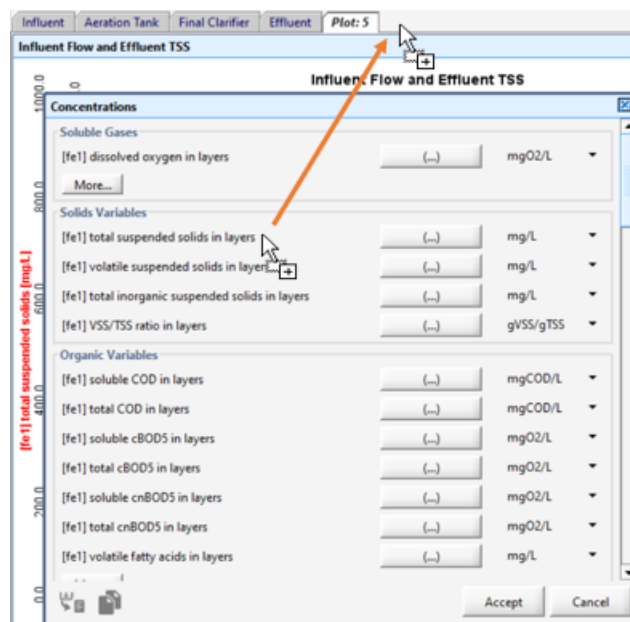

Figure 2-16 - Dragging Variable to New Table
19. Drag the **total suspended solids in layers** (see Figure 2-16) item to the blank area to the right of the existing output tabs. By dropping it there, a new tab is automatically created, and the desired graph is created on the new tab.